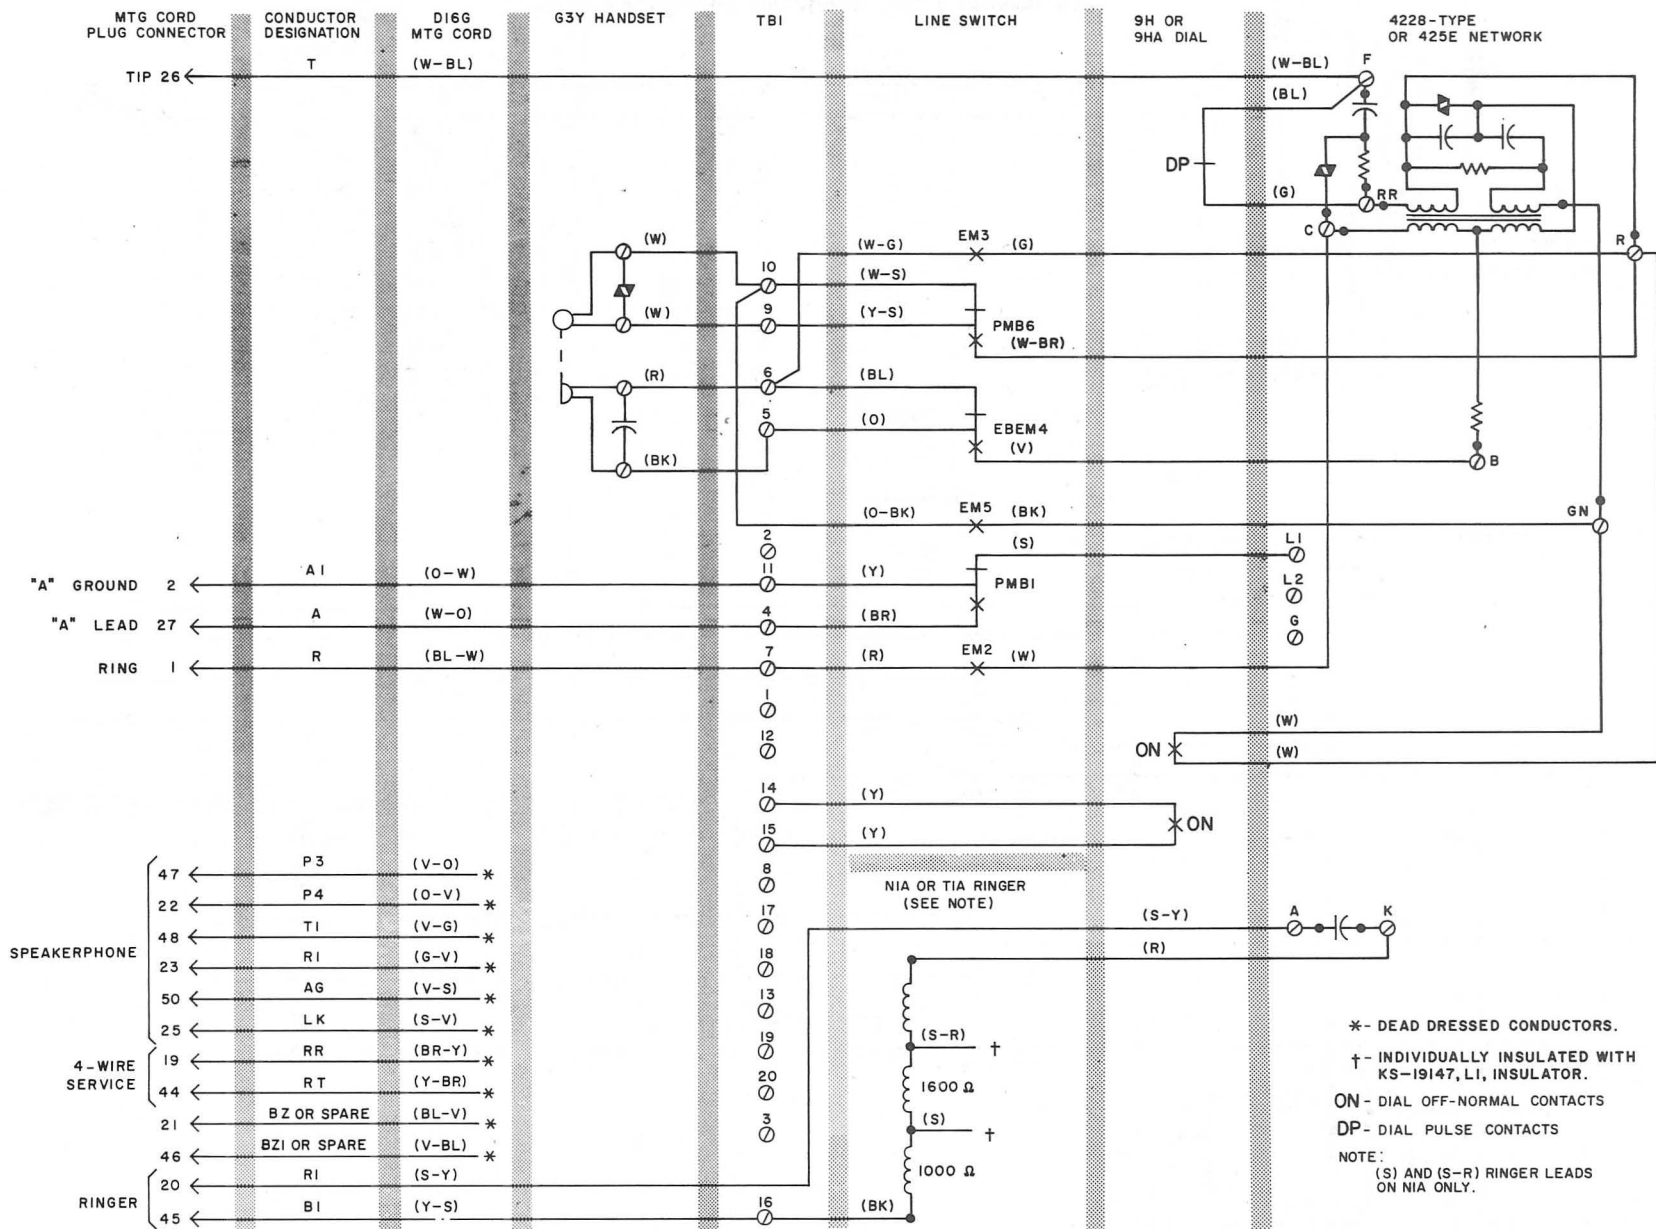

Fig. 1—500AB Telephone Set, Connections
2.02 The 500AB ♦or 500ABM♦ telephone set is factory wired for 2-wire service (Fig. 1 and 2). Table B shows wiring changes necessary to convert the set to 4-wire service.